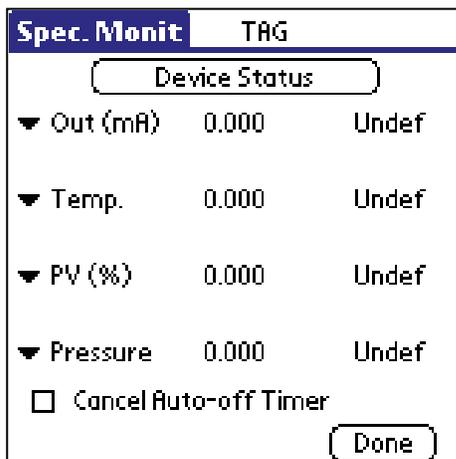

Fig.8 - Specific Monitor Screen
2. Select the desired 4 variables to log from the 4 drop down menus on the Specific Monitor screen (Figure 8).